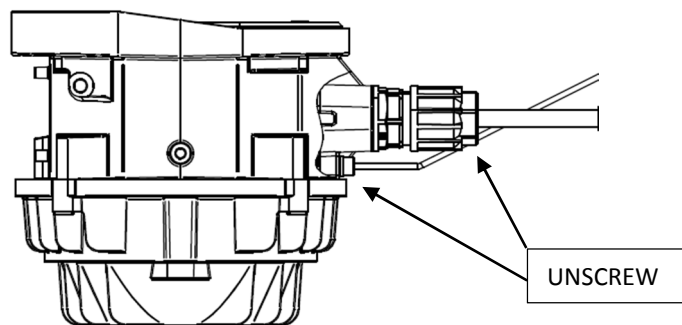

Figure 17: bulkhead connector electrical connection
- remove the light unit from the breakable coupling, from the supporting pole or from the frangible-lowering mast, releasing the locking screws of the support with vertical aiming adjusting device and unscrewing the nut of the bulkhead connector. Remove the external grounding wiring too, when provided. In this way the existing electrical connections can be reused (fig. 17)